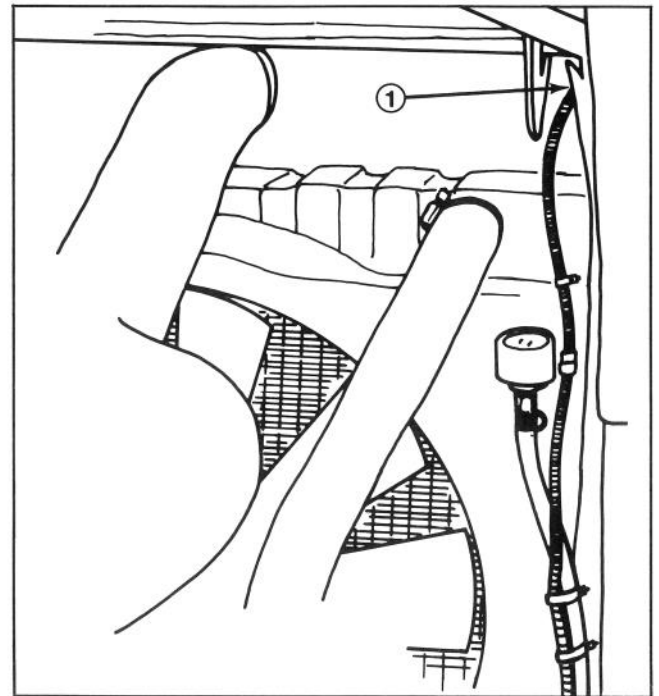

Figure 8
2. On the right hand side of the radiator support, measure and center punch 5-3/4 in. up from the center of the top right hand radiator mounting hole (Fig. 8).
3. Drill a 1 in. hole in the support (Fig. 8).